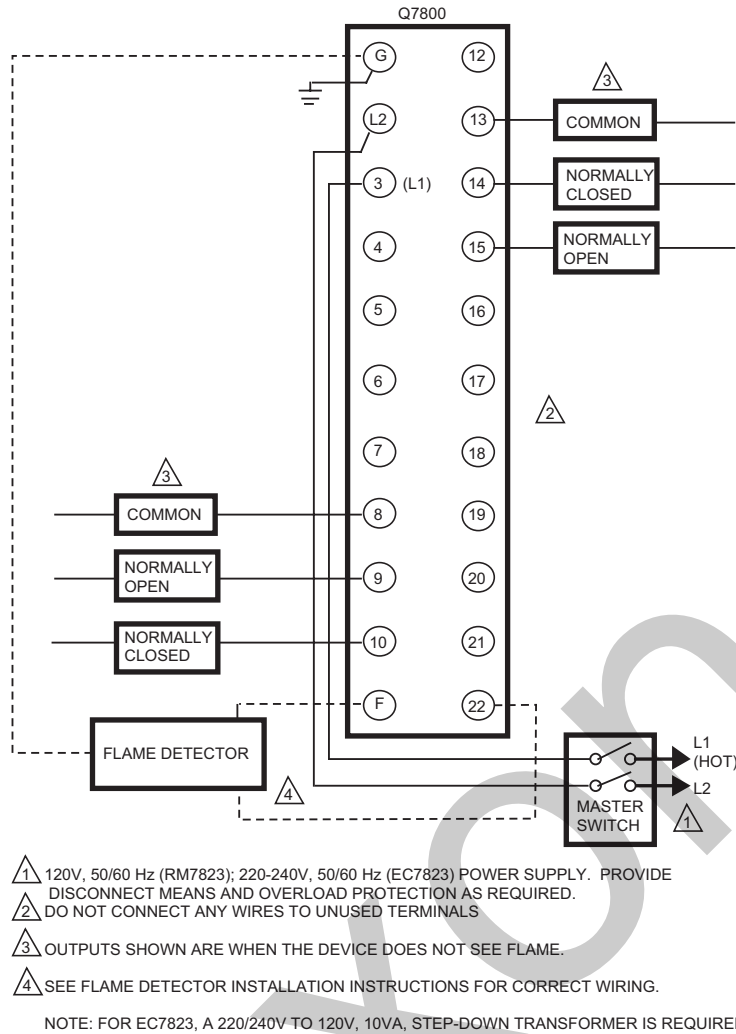

Fig. 2. Wiring subbase for EC/RM7823A.
1. *Wiring connections for the relay modules are unique; refer to Fig. 2 or the correct Specifications for proper subbase wiring.*
1. For proper subbase wiring, refer to Figs. 2, 3, 4 or 5.